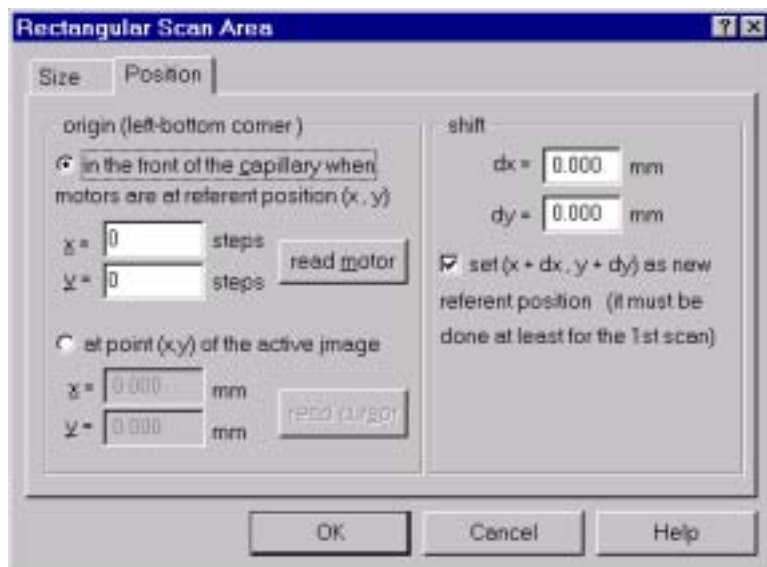

Figure 1.5.1.4.1. The 'Position' dialog box of the 'Rect, Scan Area' property sheet.
- ✓ Apply the MDI ‘Scan... Export... Rectangular Area’ command. It brings up a property sheet. There, select for Position ‘*in the front of capillary...*’ and then press ‘*read motor*’ button (see Fig. 1.5.1.4.1). After that set for Size 6mm x 6mm or similar. Finally, press OK to exit from the property sheet. Note that scan area size in millimetres together with above map size in pixels defines scan step size in millimetres, that is, resolution of your target XRF image in the same units.